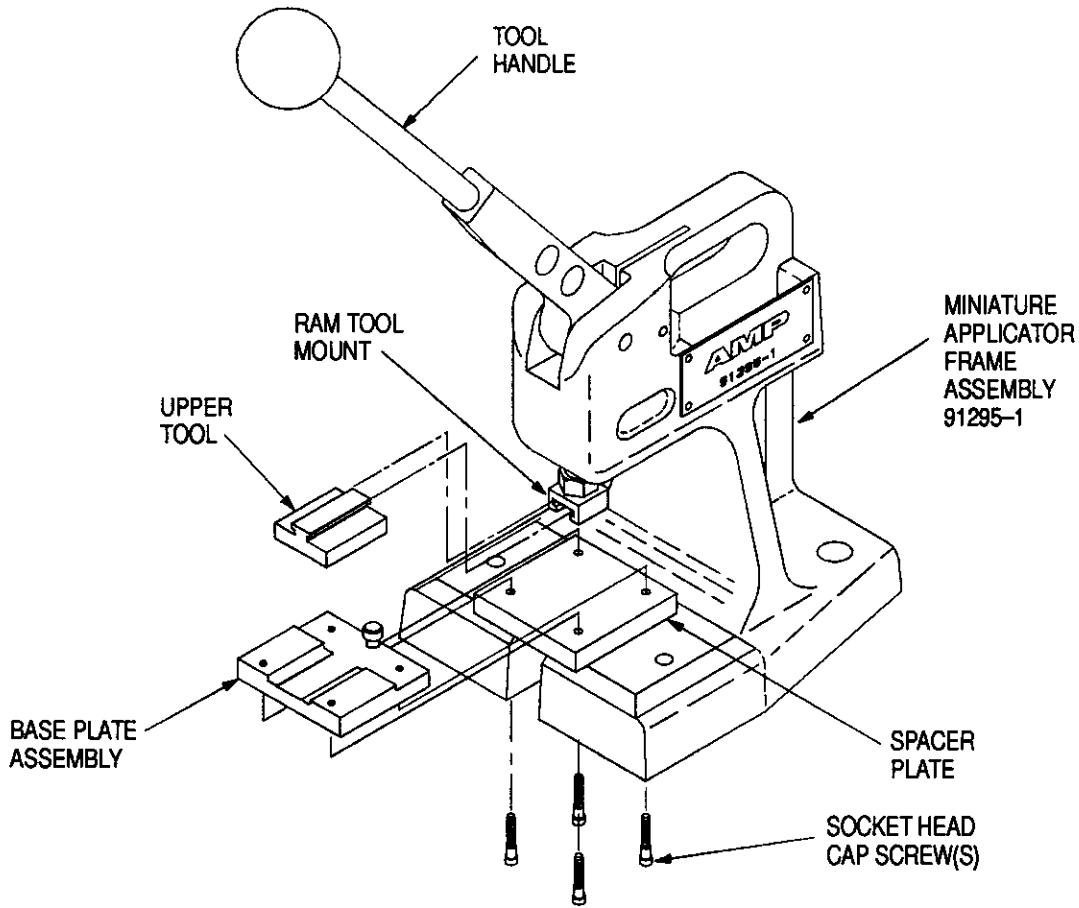

Figure 4
B. Tooling Assembly 543522-1 (Figure 4)